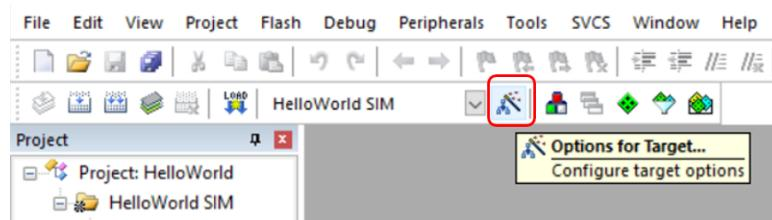

Figure 8.12: Keil IDE: Target Options Configuration
1. Bring up the target option configuration window by pressing the target options button (See Figure 8.12).